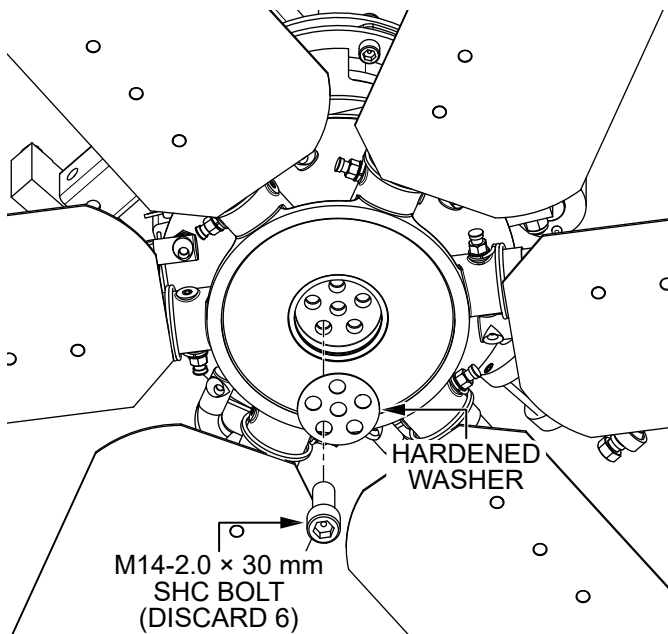

Figure 53. Remove Left-Side Spider Hardware
3. Remove and discard the **six M14-2.0 × 30 mm SHC bolts** and **one hardened washer** (Figure 53) securing the left-side spider assembly to the bottom of the left-side hydraulic motor.